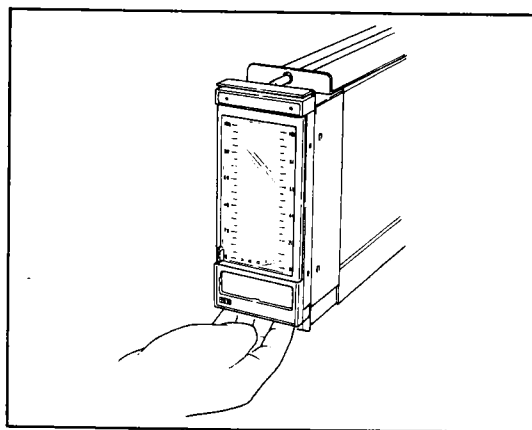

Figure 5-5. Pulling Out Internal Assembly (1).
- (3) As the internal unit is being pulled from its housing, it locks at an intermediate position before being fully extended. The internal unit can be pulled out further by pushing down the stopper spring provided on the top of the internal unit (See Figure 5-5 for the stopper spring).
- (1) Push up the stopper at the bottom front of the instrument and pull out the internal unit (See Figure 5-5).